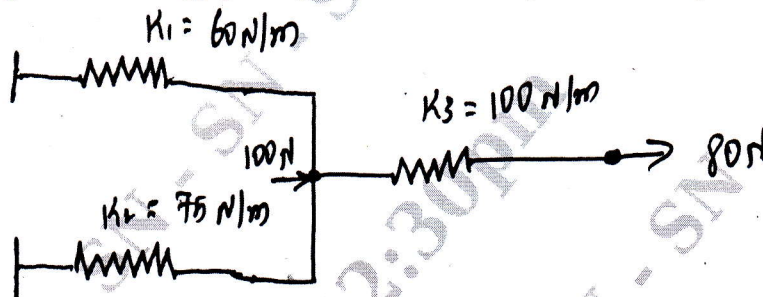

Fig Q2(b)
- b. Determine the displacements of nodes 1 and 2 in the spring system shown in Fig Q2(b), use minimum of potential energy principle to assemble equations of equilibrium.